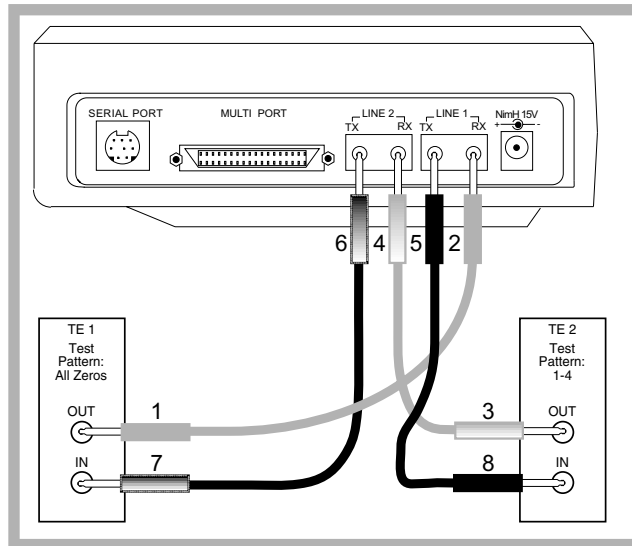

Figure 192 Emulating an Add/Drop Multiplex
2. Connect the SunSet T10 to the two TEs (terminal equipment) in the order shown in Figure 192.
- B. Verify that the pattern sent by TE 2 is shown on all of the timeslots. According to Figure 192, the 1–4 pattern should be seen. This confirms that the SunSet T10 is receiving the LINE 2 signal properly.
- B. Verify that the pattern transmitted by TE 1 is shown on all available timeslots in this screen. According to Figure 192,